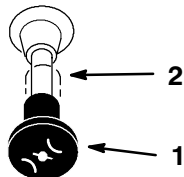

Figure 15
- After the engine starts, move the choke to “OFF” (Fig. 15). If the engine stalls or hesitates, move the choke back to “ON” for a few seconds. Then move the throttle lever to desired setting. Repeat this as required.